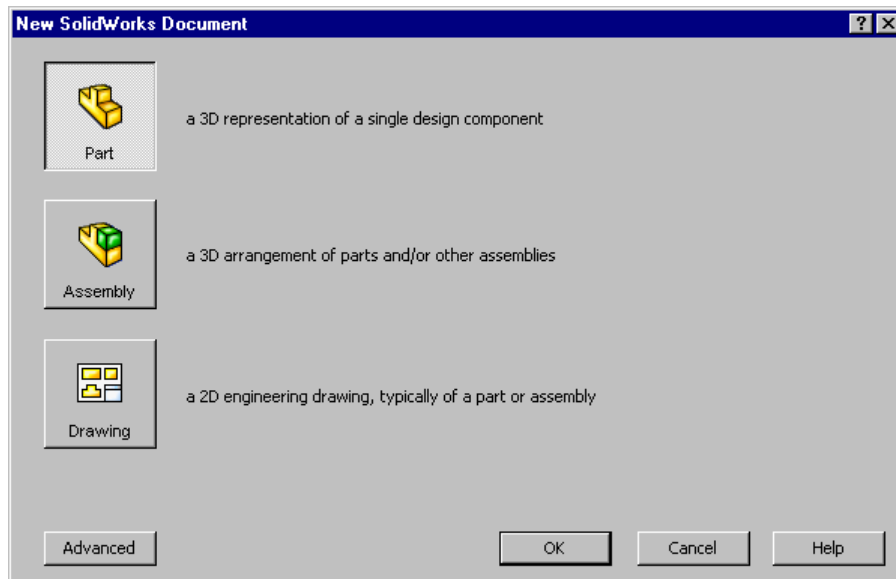

Figure 1-48 New SolidWorks Document dialog box
4. The **Part** button is chosen by default. Choose the **OK** button from the **New SolidWorks Document** dialog box as shown in Figure 1-48.